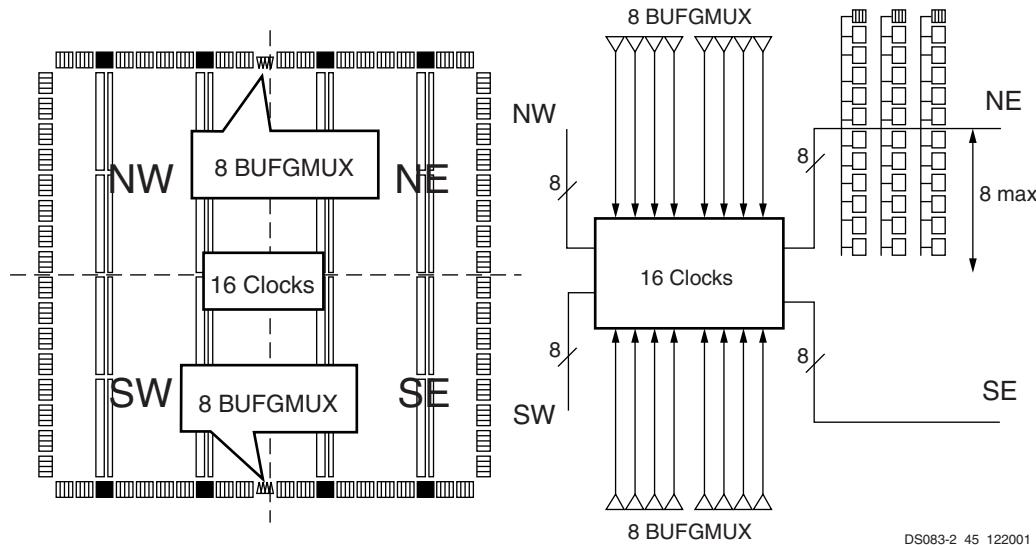

Figure 57: Virtex-II Pro Clock Distribution
**Figure 57** shows clock distribution in Virtex-II Pro devices.